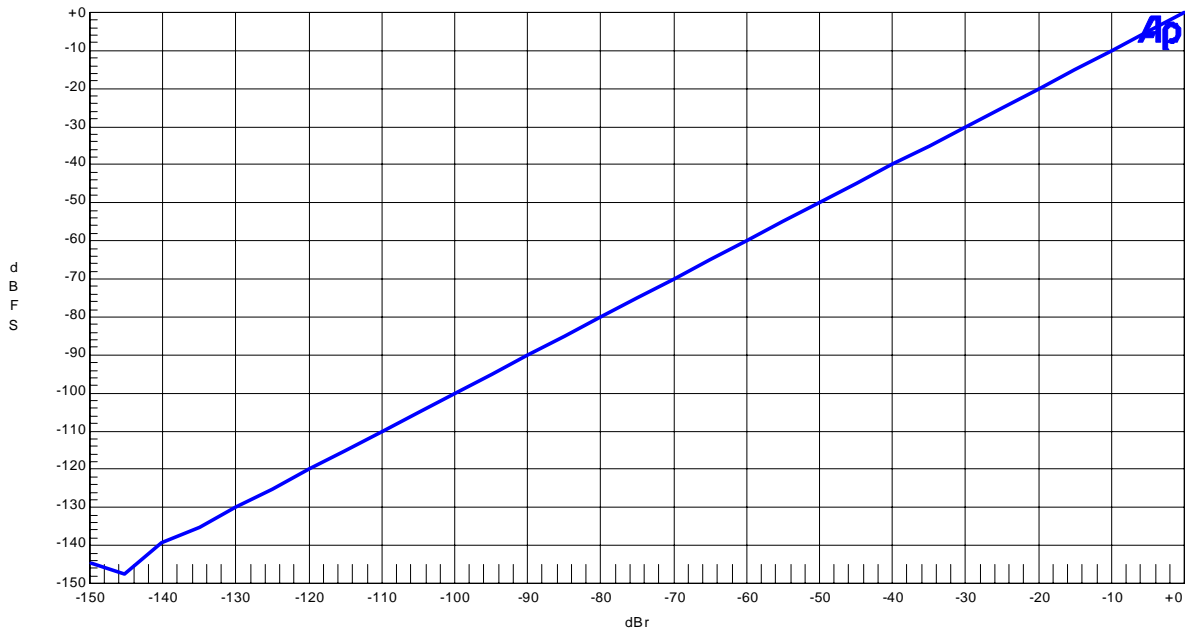

Figure 1-1-6. Linearity (fin=1kHz)
- Figure 1-1-6. Linearity (fin=1kHz)